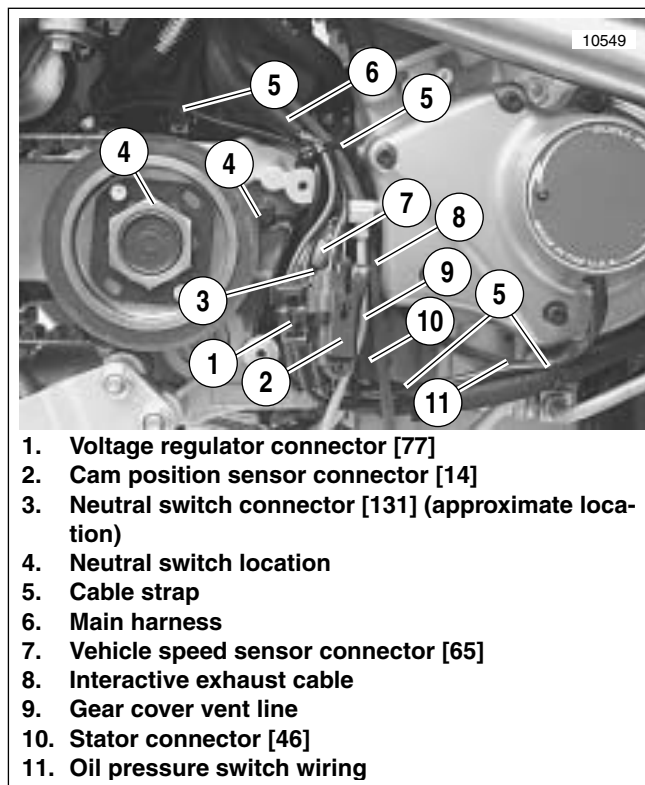

Figure 7-87. Sprocket Cover Wiring
2. See Figure 7-87. Disconnect appropriate connector(s).
See Figure 7-87. All wiring under sprocket cover that gets routed from sprocket area towards front of vehicle is routed behind gear cover vent line (8).
1. Route oil pressure switch wiring (10) from main harness (6), behind gear cover vent line (9) to oil pressure switch located on front of engine.